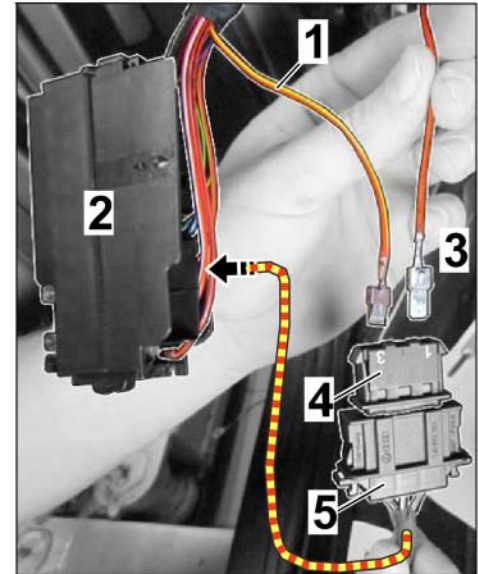

Figure 33
2.6.4 Assign plug socket (3-pin) as follows (⇒ *Figure 33*):